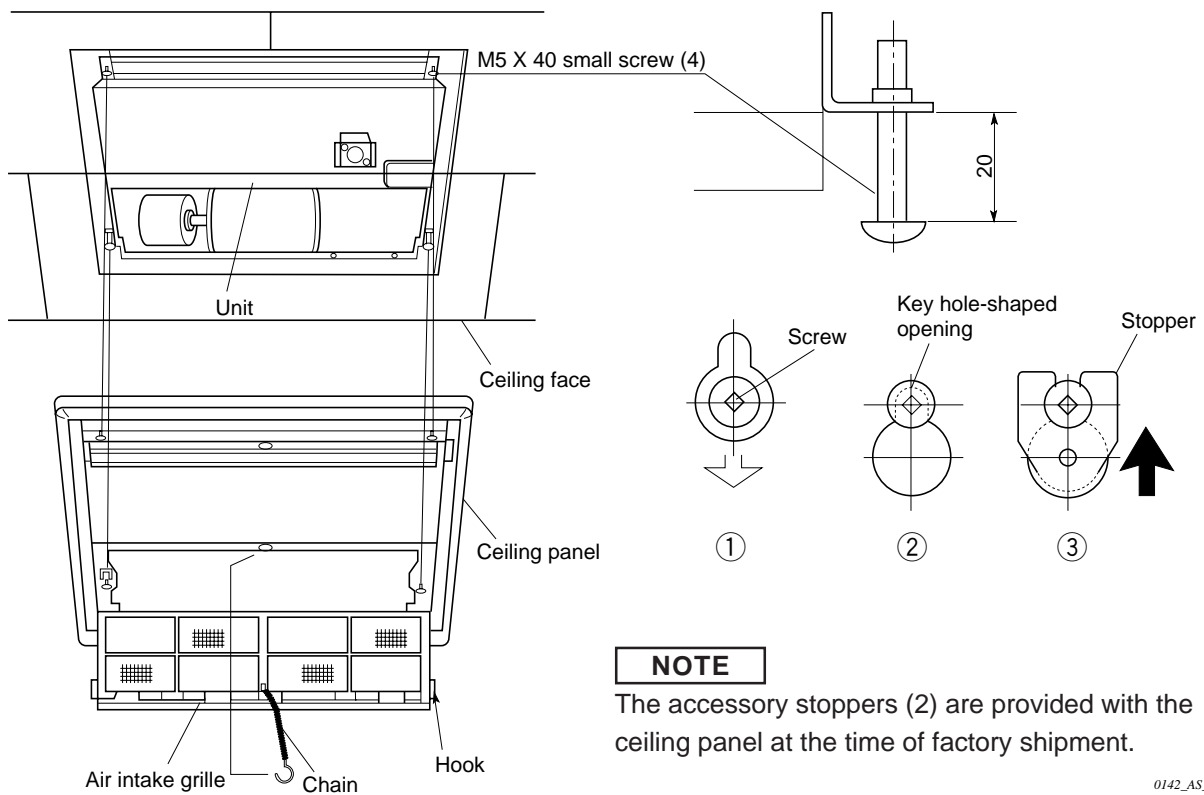

Fig. 11-1
- (1) Screw the M5 × 40 screws provided (in the unit packing) into 4 points on the flange face of the unit body bolted to the ceiling. Screw in the screws to extent such that distance between the bottom of the screw head and the bottom face of the flange is at least 19.05 mm. (Fig. 11-1)
- (2) Next, lift the ceiling panel in this position so that the 4 protruding screws pass through the key hole-shaped openings in the panel, then shift the panel sideways until it is caught by the screws.
- (3) Keeping the ceiling panel in this position, check to see if the joining edge of the ceiling panels are in line with those of the ceiling material.
- (1) Pass through screws on the unit body into the key hole-shaped opening on the panel.
- (2) Then, shift the panel sideways until it is caught by the screws.
- (3) Insert stoppers (ccessory parts) in the direction of the arrow as shown, confirm that the bent portion of each stopper is securely in the hole, A and B, then tighten the screw. (Fig. 11-1)